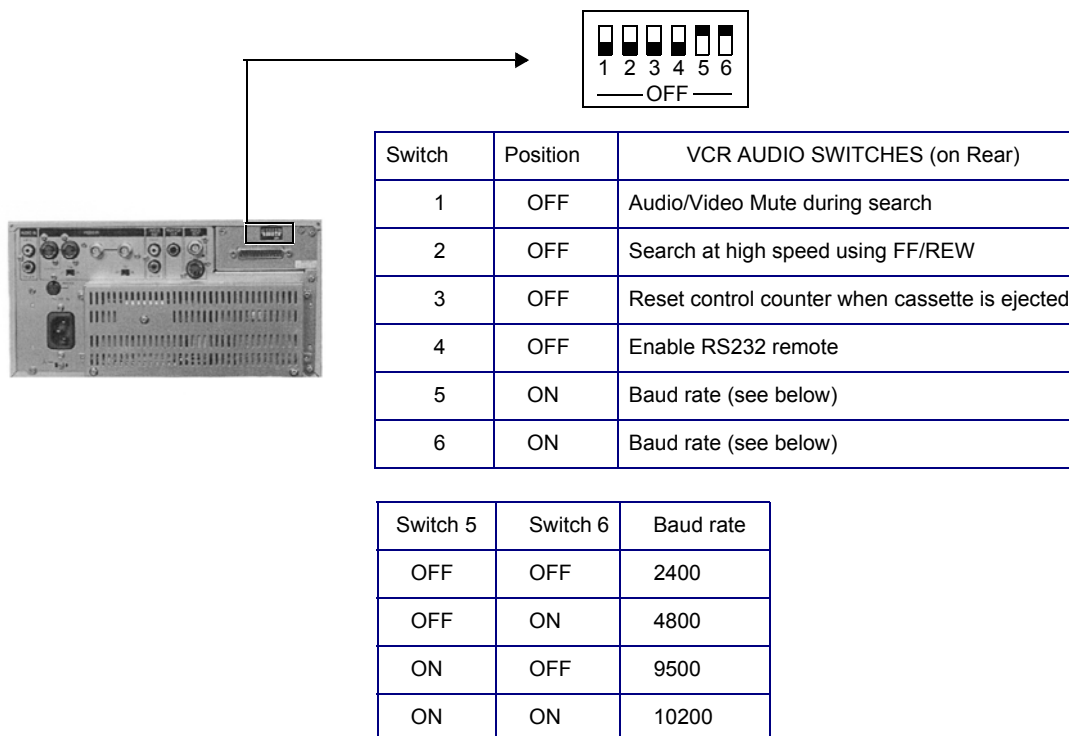

Figure 8-120 Sony VCR - Switches Setting (Rear Panel)
- 6.) Verify that the switches on the VCR rear panel are as shown in Figure 8-120 below. If necessary, adjust accordingly.